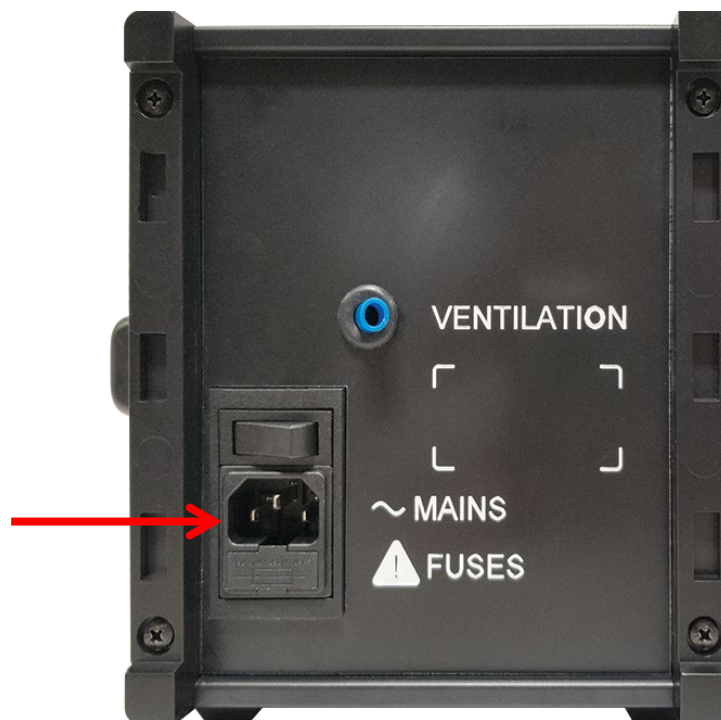

Figure 3: Rear View of Unit
1. Plug the power cord into the DVR rear panel IEC Power Inlet connector. See **Figure 3**.